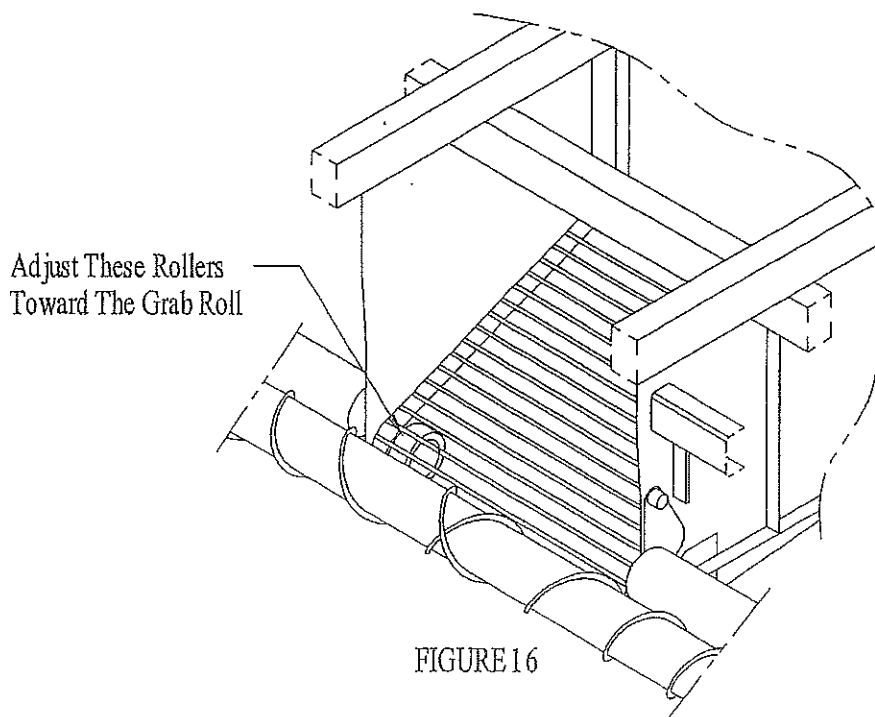

FIGURE 16
2. Check the spacing between the elevator draper chain and the last spiraled grab roll. If the spacing is more than 2" adjust it closer by moving the rollers forward. See figure 16.